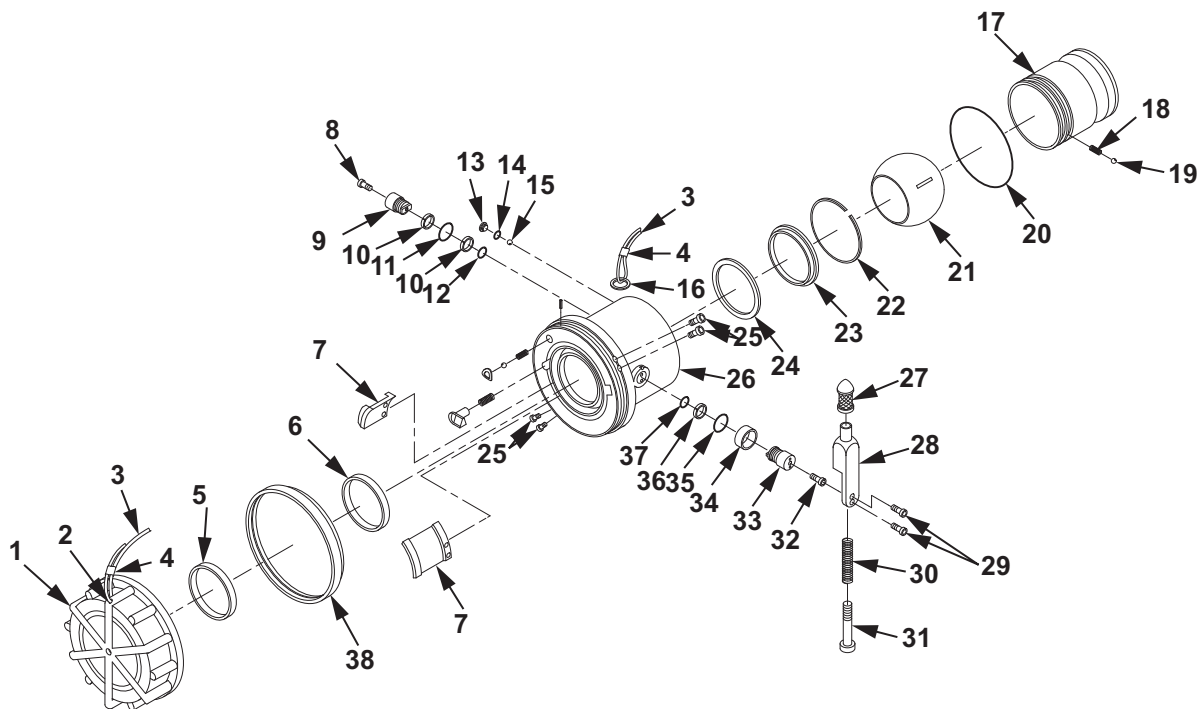

Figure 1. 3 In. Valved Dry-Break Coupling Disassembly.
Screw (Figure 1, Item 13) is a self-locking screw and is designed to be reused up to 15 times before replacement. If a torque wrench is not used to remove screw (Figure 1, Item 13), then screw (Figure 1, Item 13) should be replaced.
1. While removing screw (Figure 1, Item 13) from coupling (Figure 1, Item 26), use a torque wrench and screwdriver bit to check running torque. If running torque is less than 9.5 in. lb (1.07 N-m), discard screw (Figure 1, Item 13).
Keep inlet hole in the up position when removing screw (Figure 1, Item 13) to prevent loss of ball bearings (Figure 1, Item 15) inside coupling (Figure 1, Item 26).
2. Remove screw (Figure 1, Item 13) from coupling (Figure 1, Item 26).
3. Remove O-ring (Figure 1, Item 14) from screw (Figure 1, Item 13).
4. Discard O-ring (Figure 1, Item 14).
Ensure all 41 ball bearings (Figure 1, Item 15) are accounted for during disassembly.
5. Hold coupling (Figure 1, Item 26) with screw hole toward cleaning cloth and rotate inlet fitting to allow ball bearings (Figure 1, Item 15) to fall onto the cleaning cloth.
When removing inlet adapter (Figure 1, Item 17), retain ball bearing (Figure 1, Item 19) and spring (Figure 1, Item 18).
6. Remove inlet adapter (Figure 1, Item 17) from coupling (Figure 1, Item 26).
7. Remove O-ring (Figure 1, Item 20) from outer groove of inlet adapter (Figure 1, Item 17).
8. Discard O-ring (Figure 1, Item 20).
9. Remove screws (Figure 1, Item 29) from control arm (Figure 1, Item 28).
10. Remove control arm (Figure 1, Item 28) from coupling (Figure 1, Item 26).
If it is necessary to disassemble control arm (Figure 1, Item 28), perform the following steps.
- a. Remove screw (Figure 1, Item 31) from control arm (Figure 1, Item 28).
- b. Remove spring (Figure 1, Item 30) from control arm (Figure 1, Item 28).
- c. Remove knob (Figure 1, Item 27) from control arm (Figure 1, Item 28).
11. Remove screw (Figure 1, Item 32) from upper shaft (Figure 1, Item 33).
12. Remove screw (Figure 1, Item 8) from lower shaft (Figure 1, Item 9).
13. Using one screw (Figure 1, Item 29), screw into end of upper shaft (Figure 1, Item 33) and remove upper shaft (Figure 1, Item 33) from coupling (Figure 1, Item 26).
14. Remove O-rings (Figure 1, Item 35, 37) from upper shaft (Figure 1, Item 33). Discard O-rings (Figure 1, Item 35, 37).
15. Remove bushings (Figure 1, Item 34, 36) from upper shaft (Figure 1, Item 33).
16. Discard bushings (Figure 1, Item 34, 36).
17. Rotate ball valve (Figure 1, Item 21) to open position and remove ball valve (Figure 1, Item 21) from inside coupling (Figure 1, Item 26).
18. Push out lower shaft (Figure 1, Item 9) from inside coupling (Figure 1, Item 26).
19. Remove O-rings (Figure 1, Item 11, 12) from lower shaft (Figure 1, Item 9). Discard O-rings (Figure 1, Item 11, 12).
20. Remove bushings (Figure 1, Item 10) from lower shaft (Figure 1, Item 9).
21. Discard bushings (Figure 1, Item 10).
22. Remove retaining ring (Figure 1, Item 22) from coupling (Figure 1, Item 26).